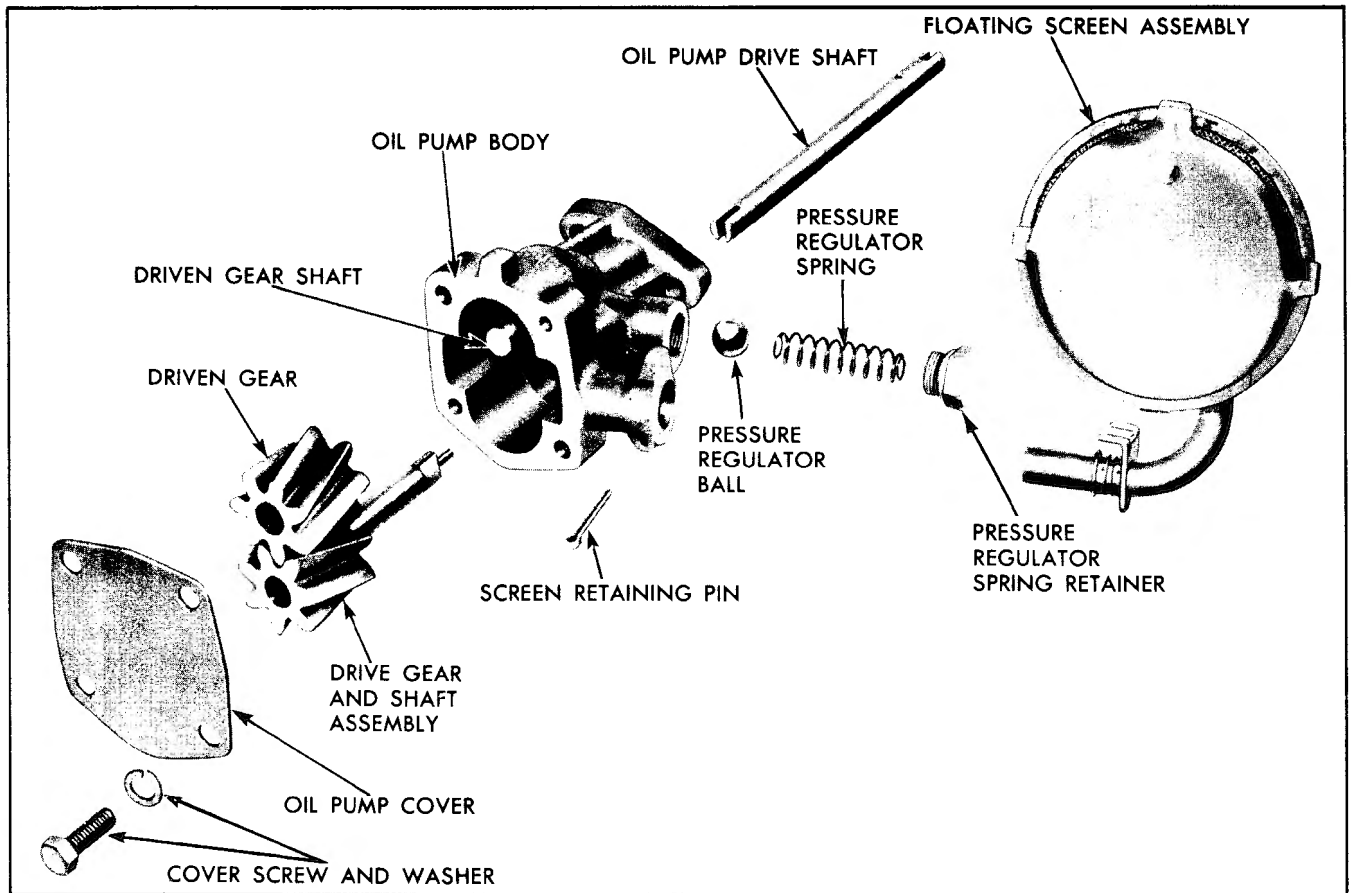

Fig. 6A-9 Exploded View of Oil Pump
1. Remove cotter pin which retains floating screen to oil pump inlet, and remove screen (Fig. 6A-9).
2. Inspect pressure regulator spring (Fig. 6A-9) for distortion, cracks, and wear on sides.